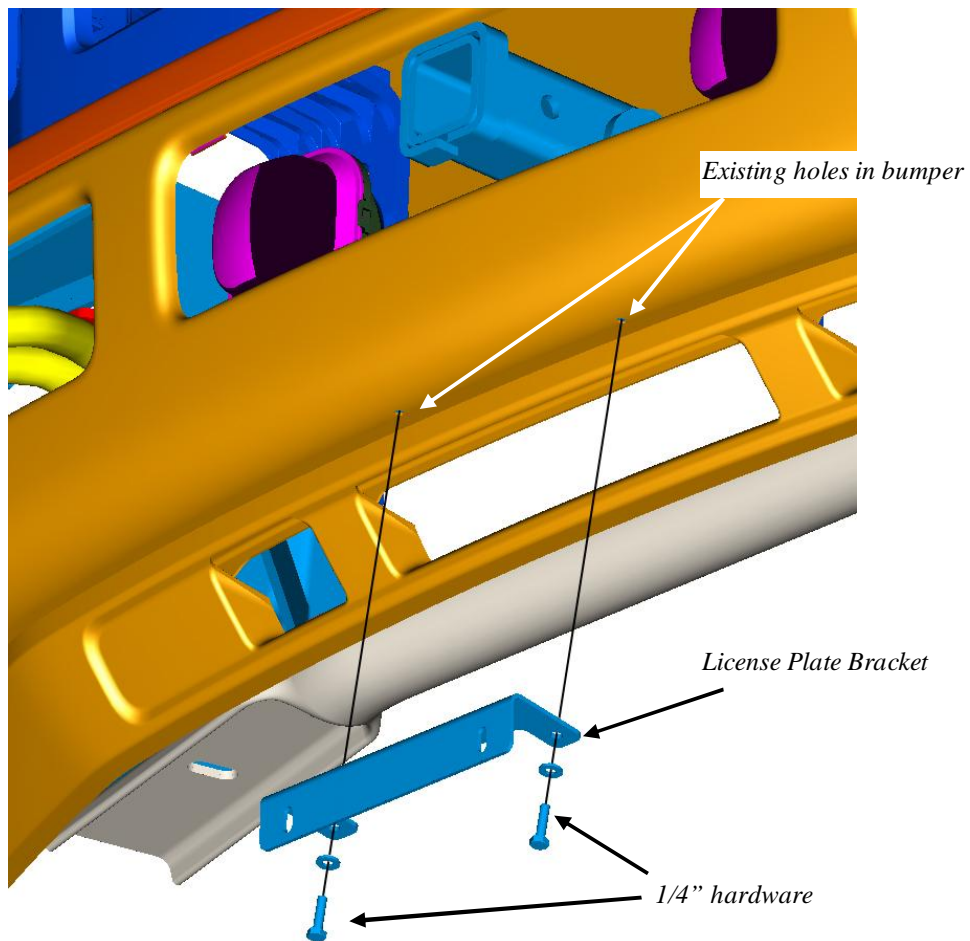

Figure 8 License Plate Bracket – exploded view
17. *Optional:* Install the License Plate Bracket under the bumper. Use 1/4" hardware through the existing holes in the bumper. **See Figure 8.**